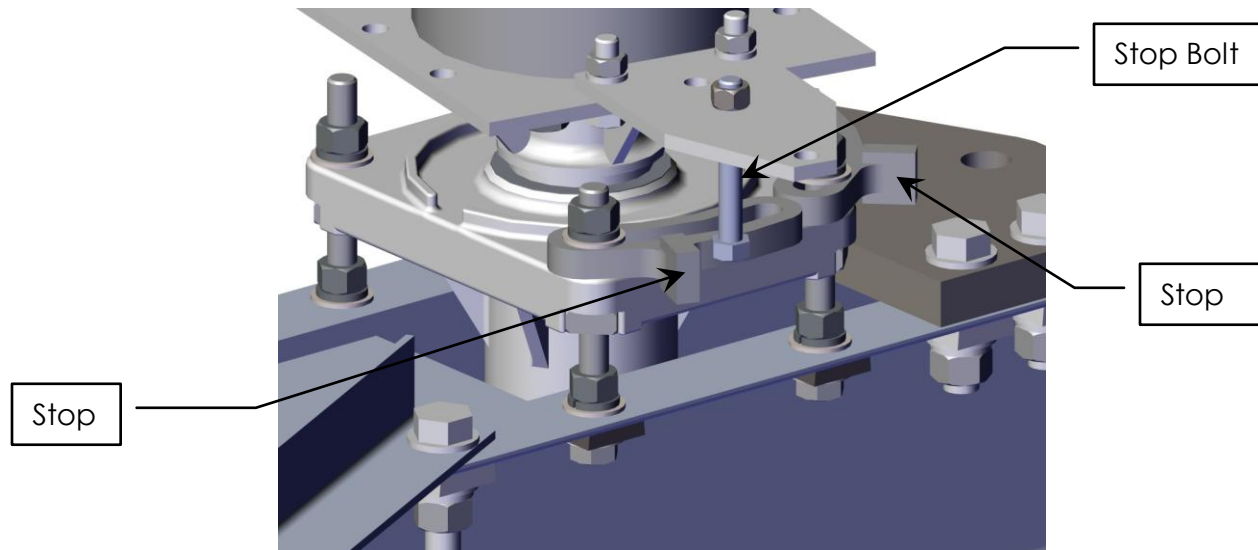

Figure 15: Closed Position Bearing Stop
- 4) The closed position bearing stop, located at the bottom of the insulator, is correctly adjusted when there is a 1/16" to 1/8" clearance between the stop and the stop bolt. Adjust the stop if necessary. See Figure 15.